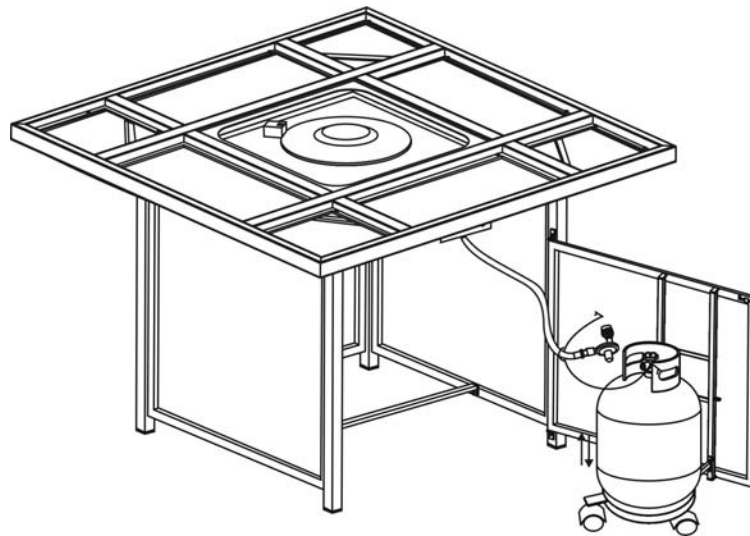

Figure 8
8. Place gas tank onto the LP support as shown in Figure 8.